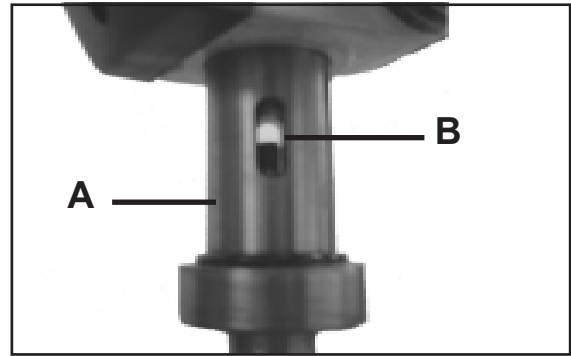

Figure 12
2. Lower the spindle until the slot in the spindle is exposed. (Fig.12)